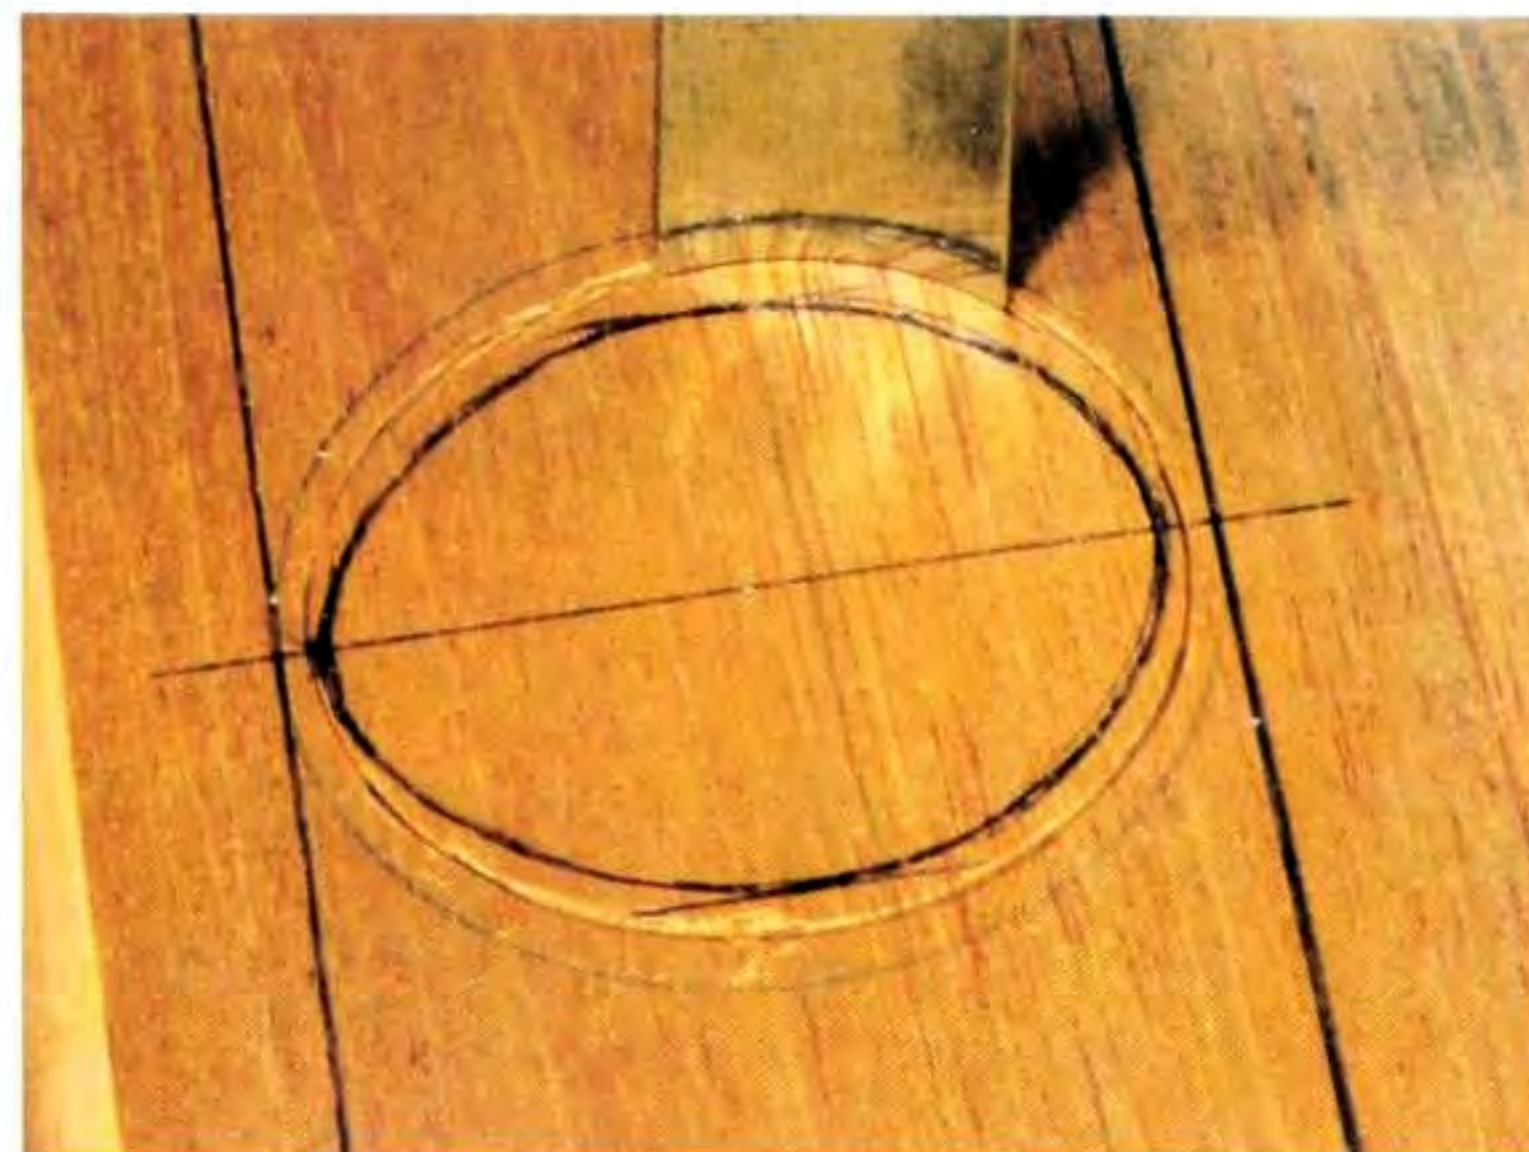

Fig 5.91 Begin with the centre stop cuts.
- 2 Use the no. 6 x 20mm ($\frac{3}{4}$ in) gouge and mallet to stab all round the centre line. Start in the widest part with a strong vertical stab, but remember that the stab cut must become shallower in the thinner parts. As the cut is vertical, there is no need to change hands (see Fig 5.91).